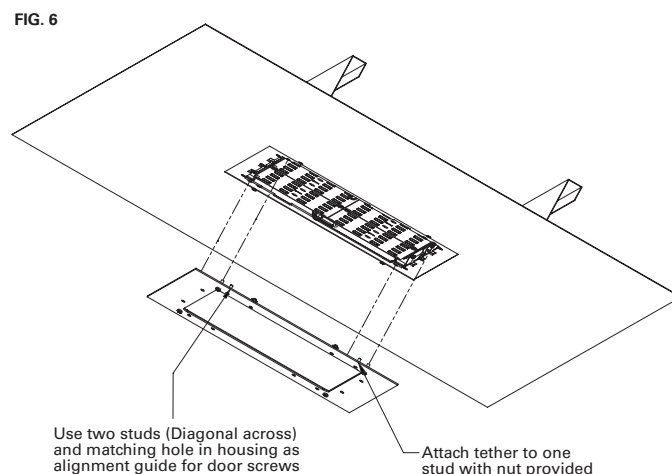

FIG. 6
15. Attach the tether to the door by unscrewing nut from the door, placing the tether onto the stud and tighten the nut back on (**FIG. 6**).
16. Screw the door into the fixture while making sure the tether does not get caught up in gasket and tighten four door screws (use two diagonal studs as guide to locate door screws **FIG. 6**). Ensure screws are tightened all the way (torque 15 in. lb.).
17. Attach the tether to the door by unscrewing nut from the door, placing the tether onto the stud and tighten the nut back on (**FIG. 6**).
18. Screw the door into the fixture while making sure the tether does not get caught up in gasket and tighten four door screws (use two diagonal studs as guide to locate door screws **FIG. 6**). Ensure screws are tightened all the way (torque: 15 in. lbs.).